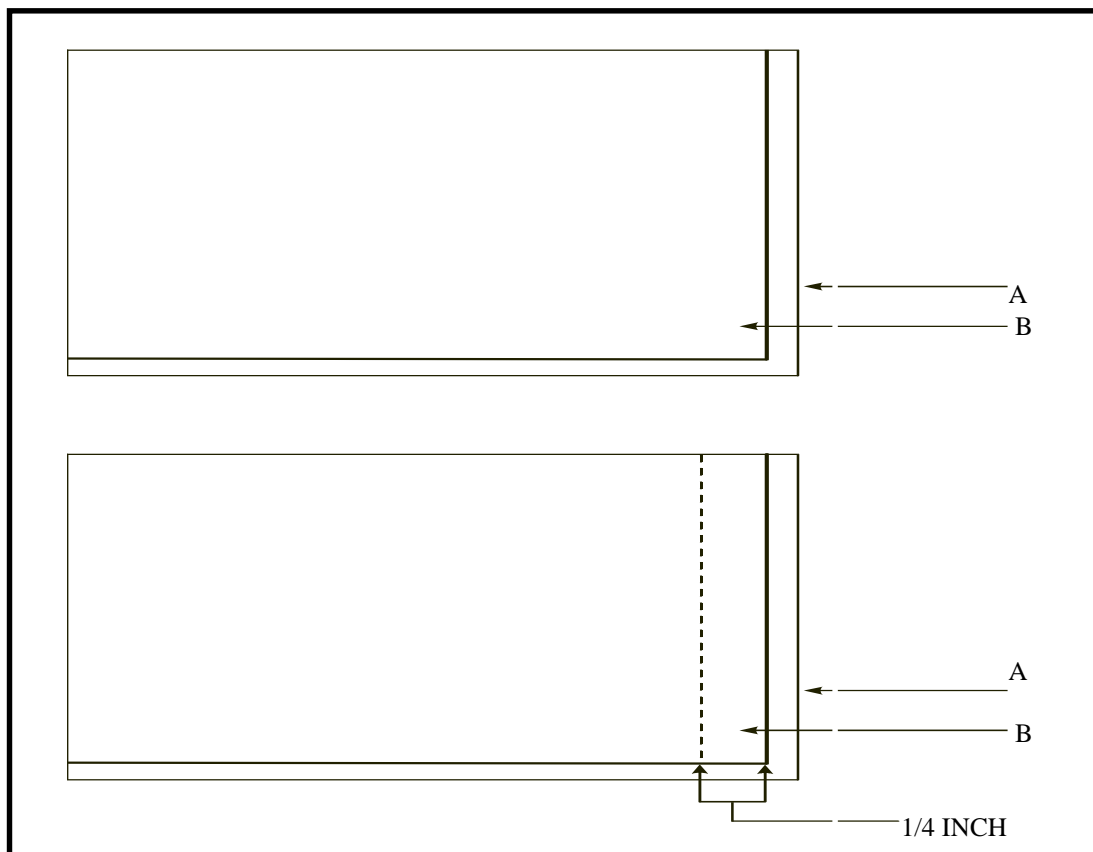

Figure 8-2. Plain seam on canvas
a. Plain or Simple Seam. The plain seam (Figure 8-2) is used to join two pieces of canvas when a finished seam edge is not required. It is identical to the simple seam used on clothing, but it is sewn 1/4 inch from the edge. To make a plain seam--
- (1) Place piece A faceup on the sewing table.
- (2) Place piece B facedown on top of piece A.
- (3) Adjust the two layers so that the right edges are even.
- (4) Tack the beginning of the seam, and then sew a row of stitches 1/4 inch from and parallel to the right edge.
- (5) Tack the end of the seam.